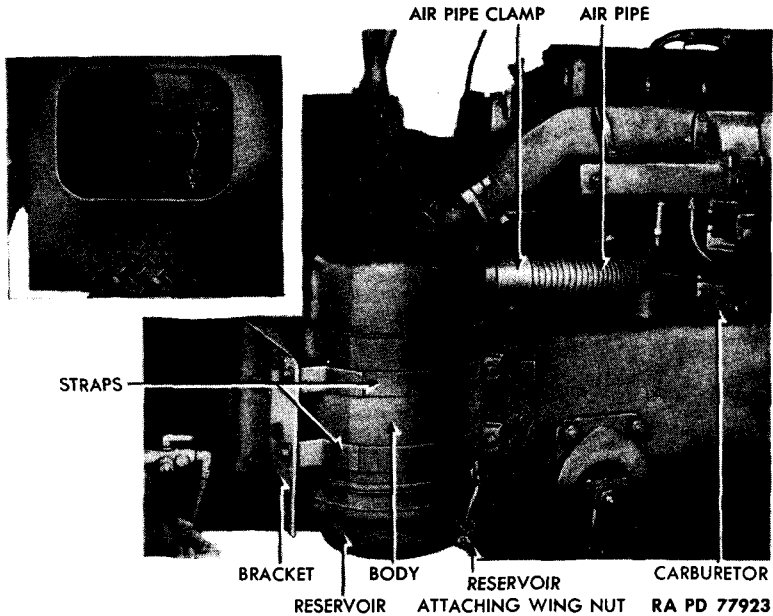

Figure 36 – Carburetor Air Cleaner Installed
(1) DISCONNECT AIR PIPE FROM CARBURETOR (fig. 36). Loosen carburetor intake elbow clamp screw (fig. 35). Pull elbow from carburetor.
(2) REMOVE CLEANER FROM BRACKET (fig. 36). Remove the four nuts, toothed lock washers, and bolts which secure air cleaner straps to bracket. Remove cleaner.
(1) INSTALL AIR CLEANER (fig. 36). Position cleaner straps to bracket. Secure with the four bolts, toothed lock washers, and nuts.
(2) CONNECT AIR PIPE TO CARBURETOR (fig. 36). Fit pipe to carburetor, and tighten elbow clamp screw.